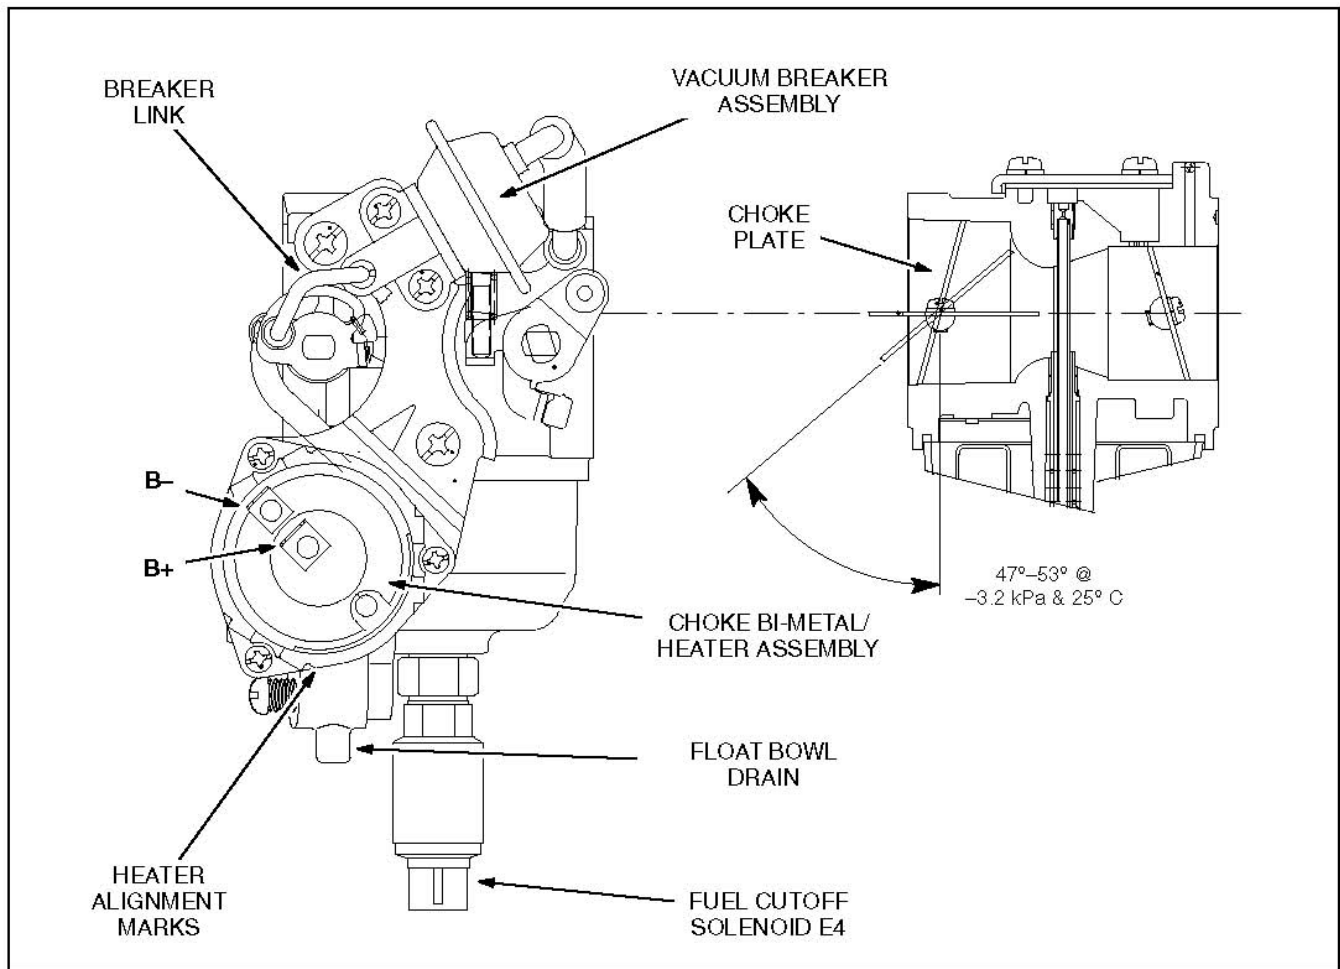

FIGURE 47. CARBURETOR / CHOKE ASSEMBLY
3. Disconnect the leads to the choke heater and fuel cutoff valve (Figure 47).
The carburetor (Figure 47) is not likely to cause problems and should be replaced only after all other problems have been eliminated (see the Troubleshooting section). The carburetor fuel mixture adjustments are sealed at the factory. See Section 8.4.3 to connect the throttle link and to adjust the idle (throttle) stop screw.
The automatic choke is operated by a bi-metal/heater assembly and a vacuum breaker assembly (Figure 47). Conduct the following checks and adjustments before replacing a carburetor/choke assembly:
- The vacuum breaker diaphragm must not leak under a vacuum of 30 inches Hg (100 kPa). It should not take a vacuum greater than 2.4 inches Hg (8 kPa) to open the choke fully. At a vacuum of 1 inch Hg (3.2 kPa) the choke plate should be at the angle shown (Figure 47). If necessary, bend the link at the point shown, using two pliers.
The fuel cutoff solenoid is threaded into the bottom of the carburetor float bowl (Figure 47). If the engine does not start because it is not getting fuel, but fuel can be drained from the carburetor float bowl, the solenoid probably is not opening and should be replaced. To remove and replace the cutoff solenoid: